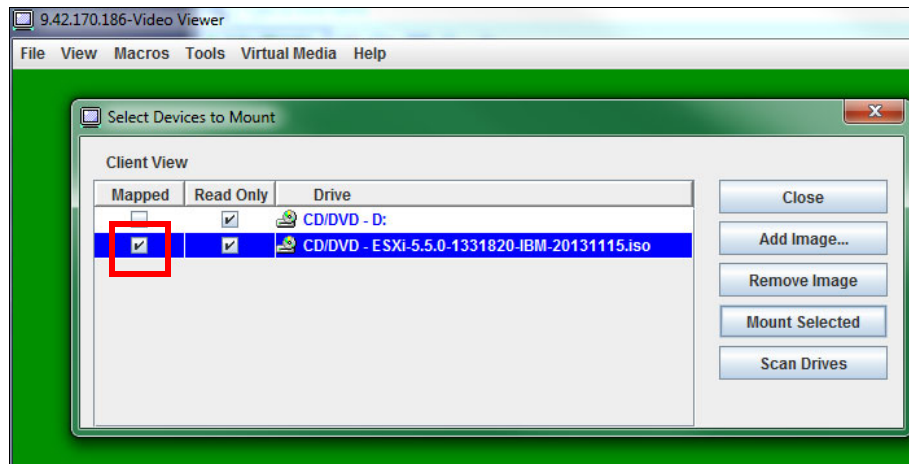

Figure 5-8 Selected image mounting
7. After adding the image that you want, select the check boxes next to the drives that you want to map, and click **Mount Selected**, as shown in Figure 5-8: